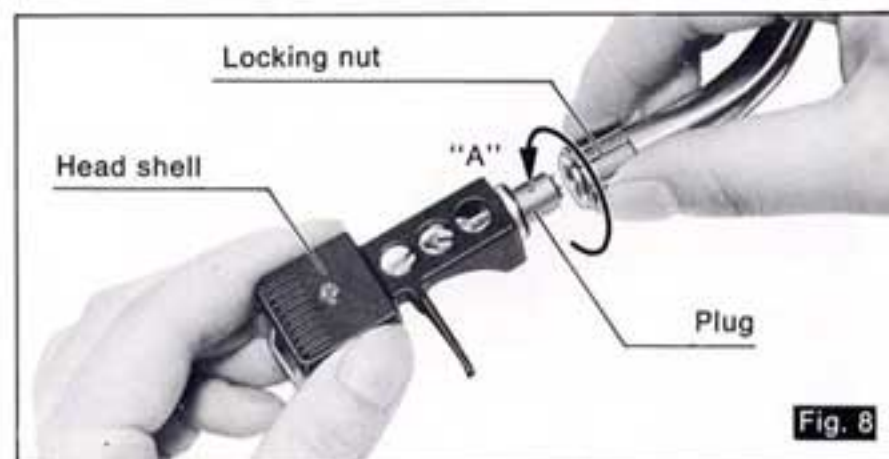

Fig. 8
⑥ Installation of the head shell (See Fig. 8)